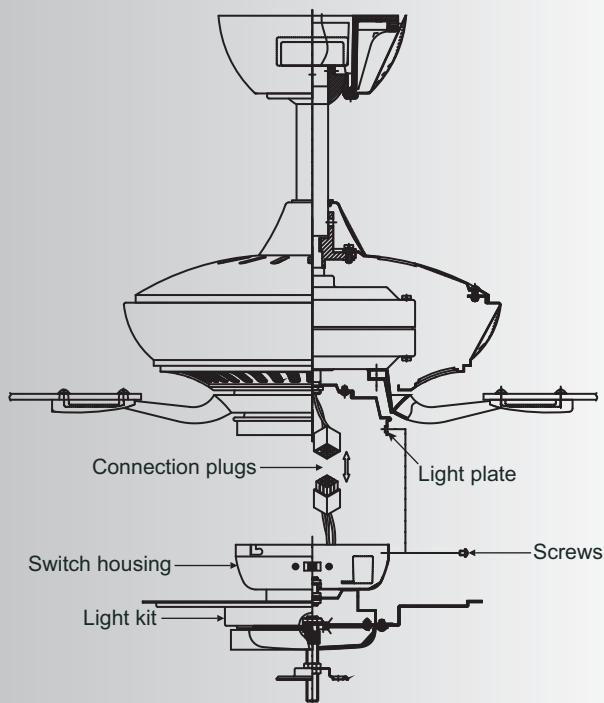

Fig. 19
Step 2. Raise and hold the LED light kit assembly close to the mounting plate. Push the nine pin square wire connectors together. One from the fan and one from the LED light kit assembly. (Fig. 19)
Step 3. Tuck the connections neatly into the switch housing and attach the LED light kit assembly to the ceiling fan. Place the key hole slots on the top edge of the switch housing over the mounting screw heads on the mounting plate. Turn the switch housing until the screw heads are at the narrow end of the key hole slots. (Fig.19) Tighten all of the screws.